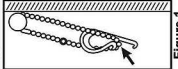
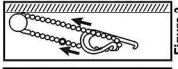

Figure 1
Figure 2
- * Insert chain loop to chain tension device as shown on figures 1, Pull chain loop upward until it is fully inserted inside the chain tension device as shown on figure 2.